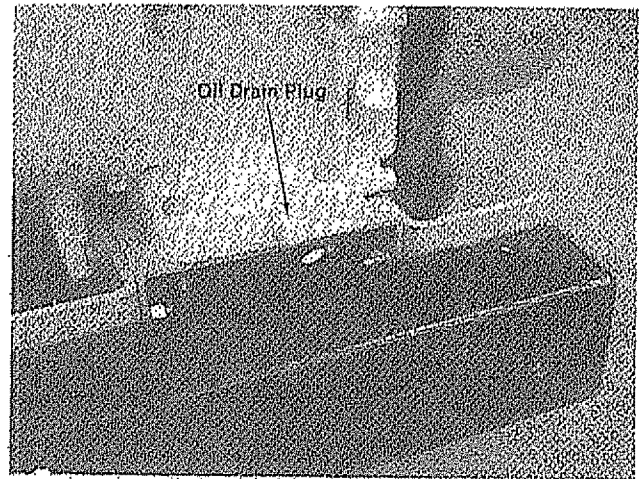

FIGURE 40.
1. With the tiller on level ground, place a suitable metal container under the oil drain plug, then remove the drain plug. See figure 40.
2. Drain all the oil from the crankcase (this should be done after the engine has been operated and is still warm) and refill the crankcase with clean new oil. See figure 40.